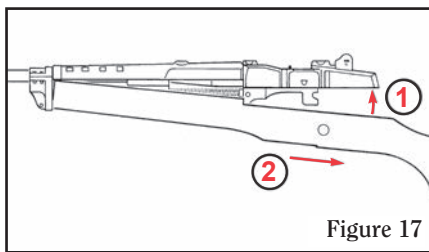

Figure 17
5. Remove barrel/receiver assembly from stock by lifting the rear of the assembly out of the stock and then pulling the stock rearward out of engagement with the gas block. (See Figure 17.)